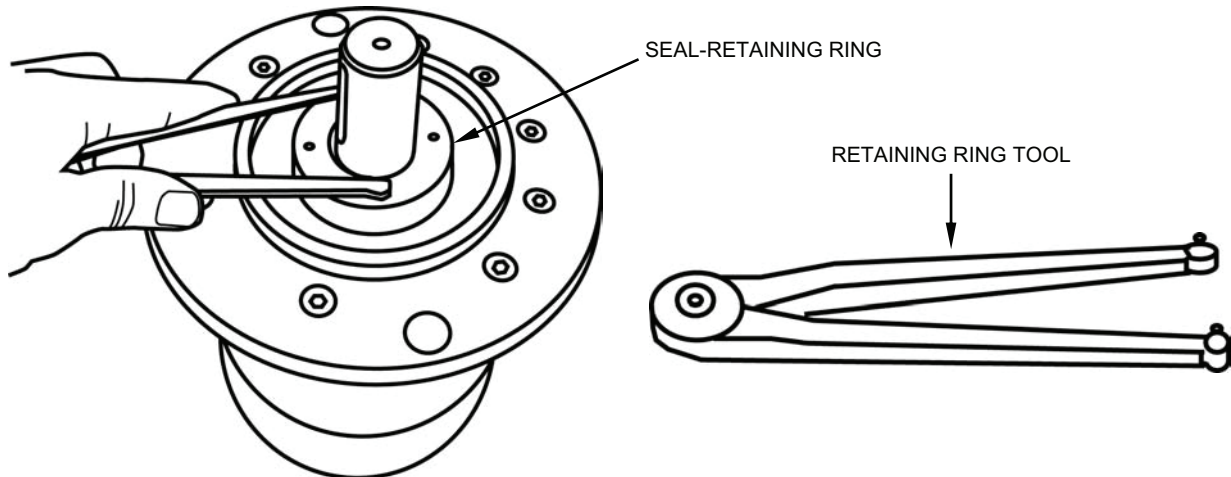

Figure 21. Removing Seal-Retaining Ring.
- d. Using the retaining ring tool, unscrew the seal-retaining ring counterclockwise and remove it (see Figure 21).